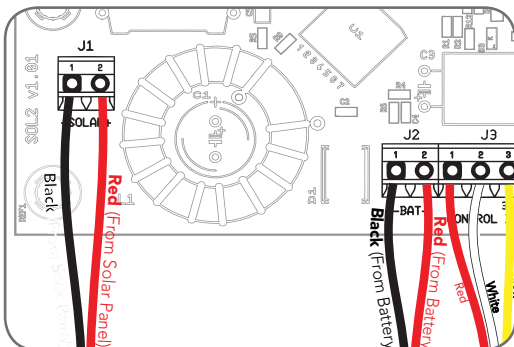

Fig 12
2. Connect the **red wire** to the Charger Board's "SOLAR+" connector, and the **black wire** to the "-SOLAR" connector (Fig. 12).
5. Connect the **red wire** to the Charger Board's "BAT+" connector, and the **black wire** to the "-BAT" connector (Fig. 12).